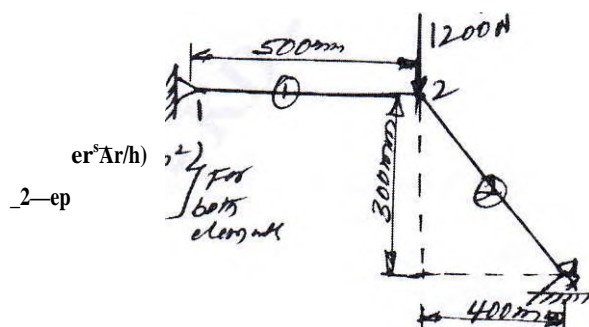

Fig.Q4(b)
- b. For the two-bar truss shown in Fig.Q4(h), determine the displacements, stress in each elements and reactions at the support. (10 Marks)